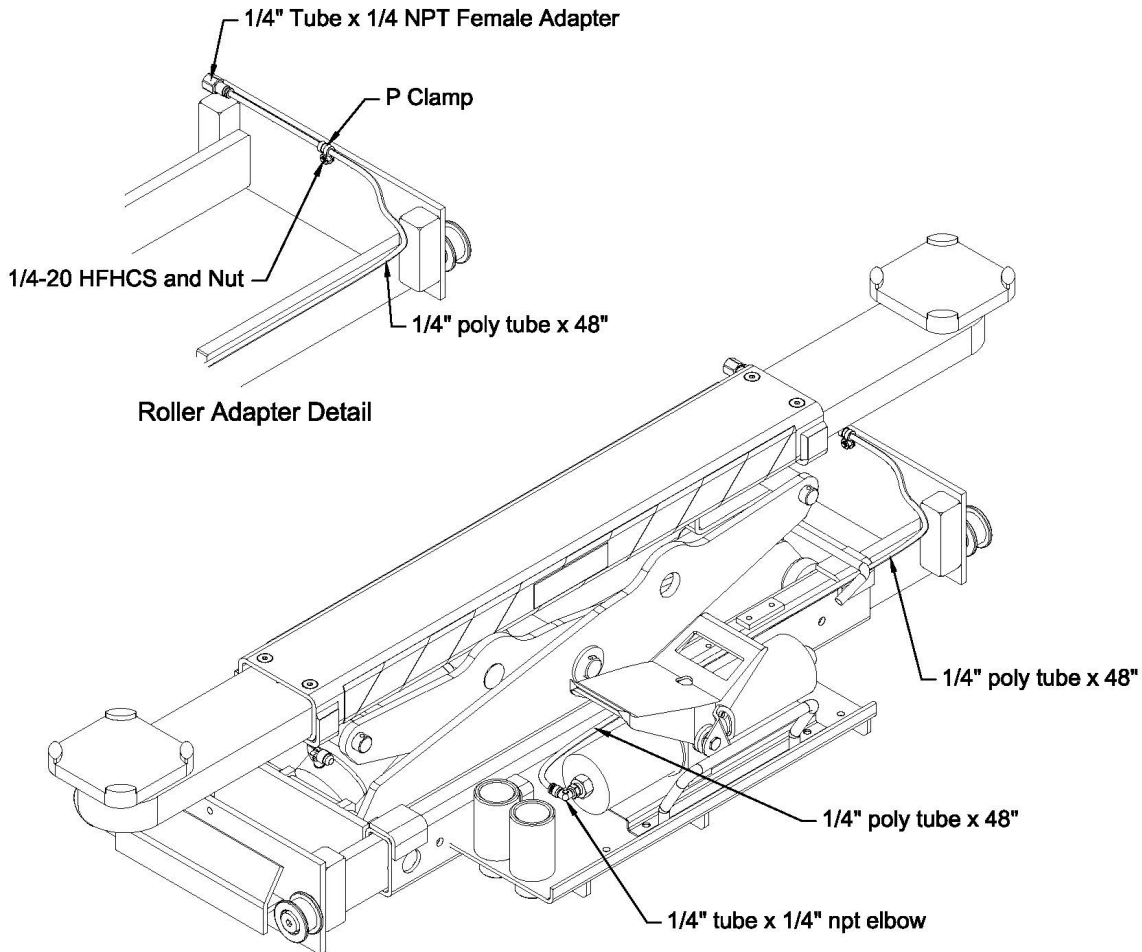

Fig. 2
- 1) Install Air Supply Line as shown in Fig 2. Begin with the 1/4" tube x 1/4" NPT elbow at the pump and route to the left or right roller adapter depending on whether it is the front or rear jack (front jack routing shown). Trim 1/4" poly tube to length and assemble the female adapter.